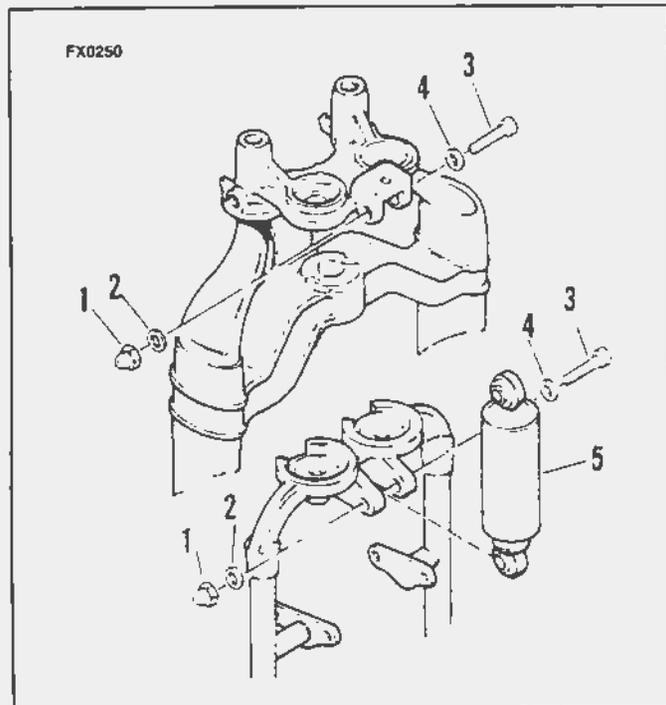

Figure 2-63. Shock Absorber
1. See Figure 2-63. Remove acorn nuts (1) and washers (2) on retaining bolts (3).
2. Remove bolts (3) and washers (4). Remove shock absorber (5).
1. See Figure 2-63. Place shock absorber (5) in position in bracket holes and install bolts (3), washers (2 and 4) and acorn nuts (1). Use Loctite 242 (blue) on threads and tighten acorn nut to 45-50 ft-lbs (61-68 Nm).